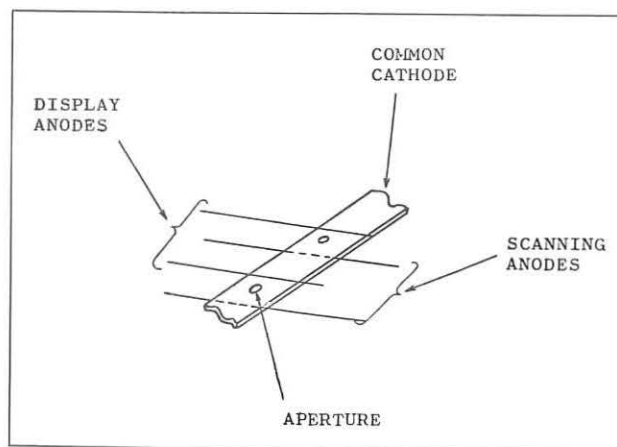

Figure 1. Display and scanning mechanisms.
1. Pull-out of priming gas discharge from a scanning cell into a corresponding display cell is utilized in the Burroughs SSPD® as shown in Figure 1. Hence, priming gas discharge existing in a scanning cell behind a narrow aperture is stably pulled out from the scanning cell into the display cell through the aperture, if positive voltage large enough to pull out discharge from the scanning to display cells is applied to the display anode. This means that conditions for the scanning and luminance modulation of currents are selected independently from each other.